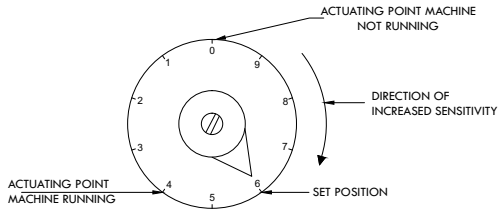

Figure A-144: Sensitivity adjustment
- A.** With the equipment not running, back off the adjusting screw counterclockwise (CCW) two turns and press reset button. Then turn screw slowly clockwise until actuation occurs. This is the ZERO VIBRATION POINT, or actuating point, with the machine not running. The trip point for zero (no vibration) of the detector will occur at different points depending on its mounting orientation with respect to gravity. A mark should be made with lead pencil or other convenient means to permanently record this "zero point". Subsequent measurements are made relative to this point. See Figure A-144.